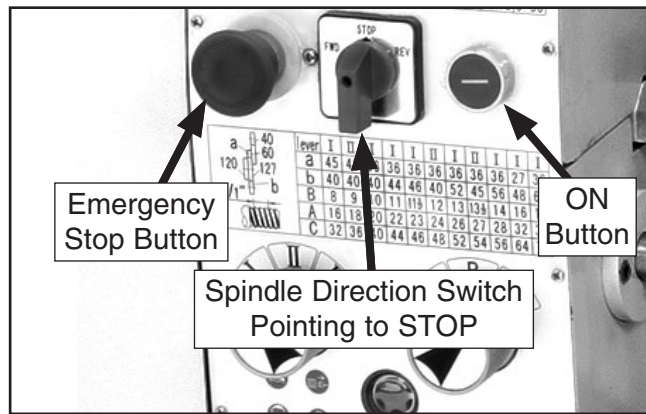

Figure 18. Headstock and gearbox controls.
1. Make sure the spindle direction switch (see **Figure 18**) is turned to STOP, and press the emergency STOP button.